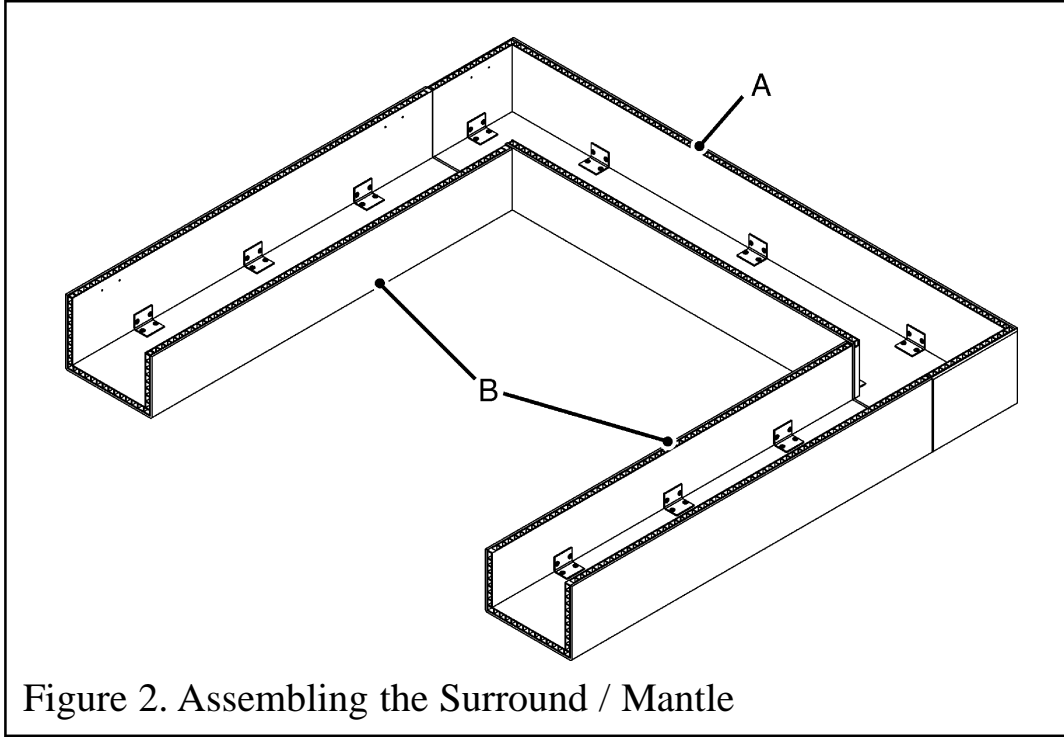

Figure 2. Assembling the Surround / Mantle
- Lay the three surround / mantle sections onto a smooth, flat, clean surface with the insides facing upward (See figure 2).